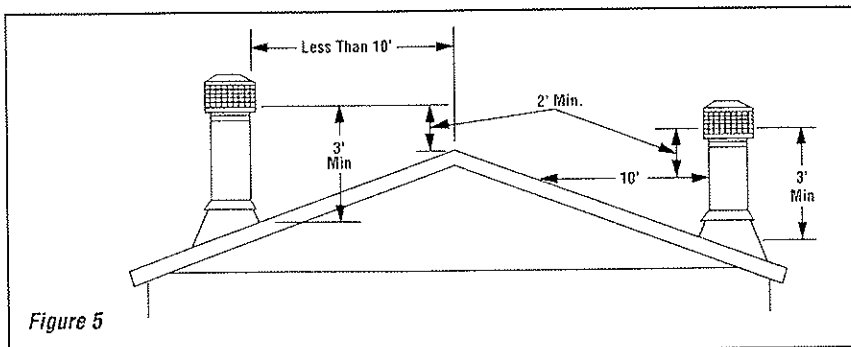

Figure 5
8. **Figure 5** illustrates the correct height of your chimney top. It is unlikely that your installation does not adhere to the installation instructions. However, if not correct, you could experience an unusual downdraft. Usually, the best solution is to increase the chimney height. This may also be necessary if nearby trees, adjoining roof lines or a hill is causing a downdraft condition.